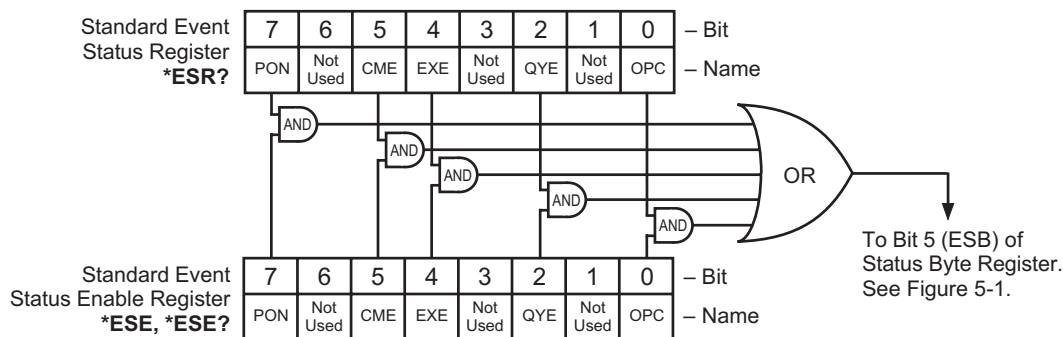

Figure 5-2. Standard Event Status Register
The Standard Event Status Register reports the following interface related instrument events: power on detected, command syntax errors, command execution errors, query errors, operation complete. Any or all of these events may be reported in the standard event summary bit through the enable register, see Figure 5-2. The Standard Event Status Enable command (*ESE) programs the enable register and the query command (*ESE?) reads it. *ESR? reads and clears the Standard Event Status Register. The used bits of the Standard Event Register are described as follows:
The Hardware Error Status Register reports the following instrument hardware error events: DAC processor not responding, output control failure, output over voltage, output over current, low line voltage, temperature fault. Any or all of these events may be reported in the standard event summary bit through the enable register, see Figure 5-2. The Hardware Error Status Register is the first value of the three values associated with the Error Status Registers. The Error Status Enable command (ERSTE) programs the enable register and the query command (ERSTE?) reads it. ERSTR? reads and clears the Error Status Register. The used bits of the Error Status Event Register are described as follows:
The Operational Error Status Register reports the following instrument operational error events: magnet discharging through crowbar, magnet quench detected, remote inhibit detected, temperature high, high line voltage, external current program error, calibration error. Any or all of these events may be reported in the standard event summary bit through the enable register, see Figure 5-2. The Operational Error Status Register is the second value of the three values associated with the Error Status Registers. The Error Status Enable command (ERSTE) programs the enable register and the query command (ERSTE?) reads it. ERSTR? reads and clears the Error Status Register. The used bits of the Error Status Event Register are described as follows:
The PSH Error Status Register reports the following PSH error events: PSH short, PSH open circuit. Any or all of these events may be reported in the standard event summary bit through the enable register, see Figure 5-2. The PSH Error Status Register is the third value of the three values associated with the Error Status Registers. The Error Status Enable command (ERSTE) programs the enable register and the query command (ERSTE?) reads it. ERSTR? reads and clears the Error Status Register. The used bits of the Error Status Event Register are described as follows:
4. Configure the GPIB by selecting the System icon in the Windows 98/95 Control Panel located under Settings on the Start Menu. Configure the GPIB Settings as shown in Figure 5-1. Configure the DEV12 Device Template as shown in Figure 5-2. Be sure to check the Readdress box.